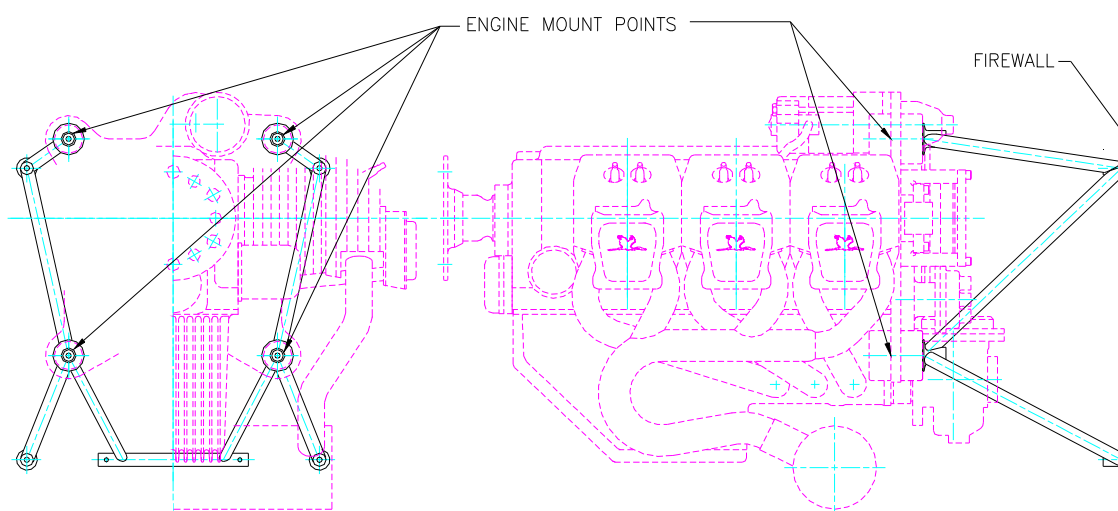

Figure 4. Engine Mount Point Locations
The engine has four engine mounting points located at the rear of the engine (shown in Figure 1 or Figure 4) from which the engine is to be mounted. An optional bed mount may be fitted.
- Each engine mounting point is rubber mounted to damp the engine vibrations. The correct installation of these rubbers is shown below in Figure 4.